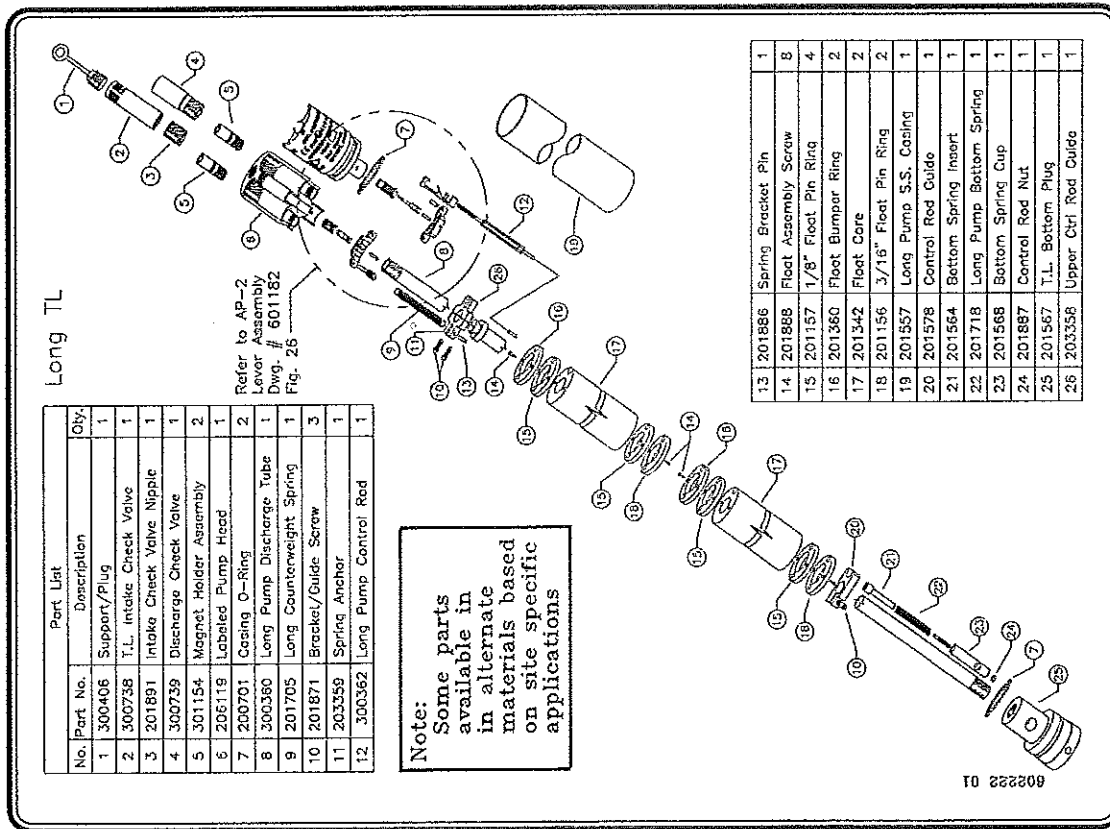
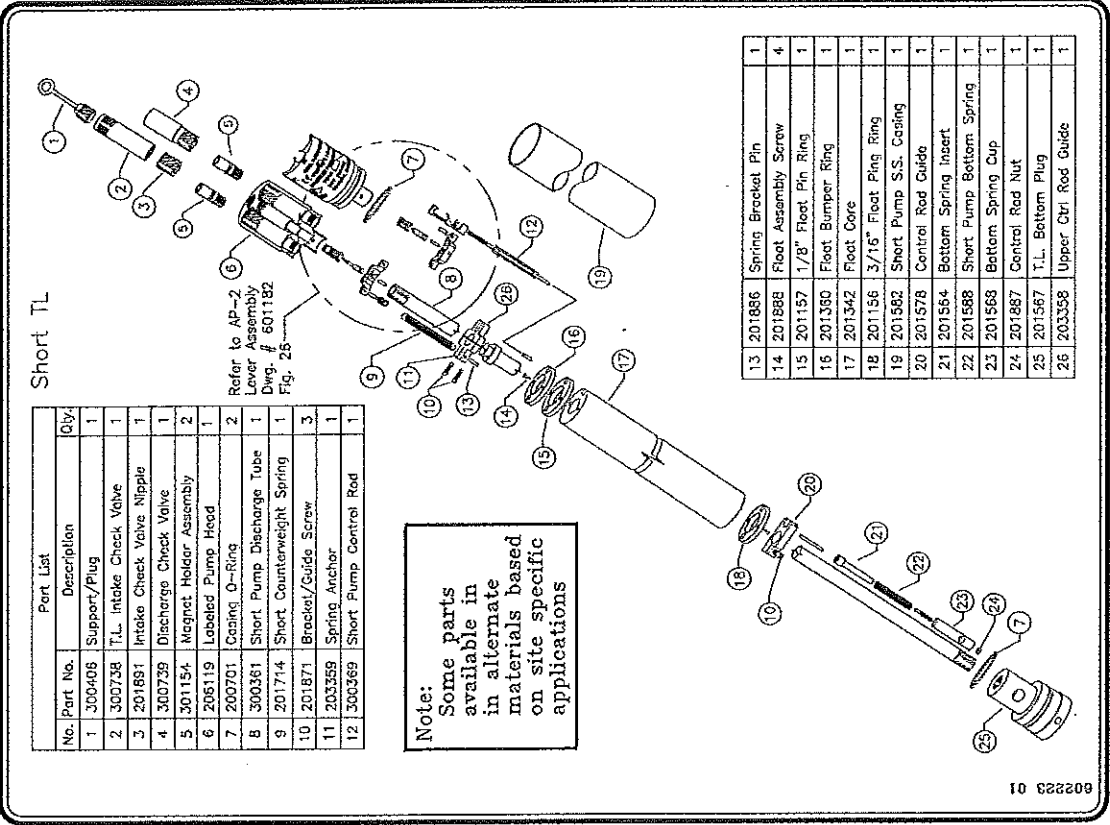
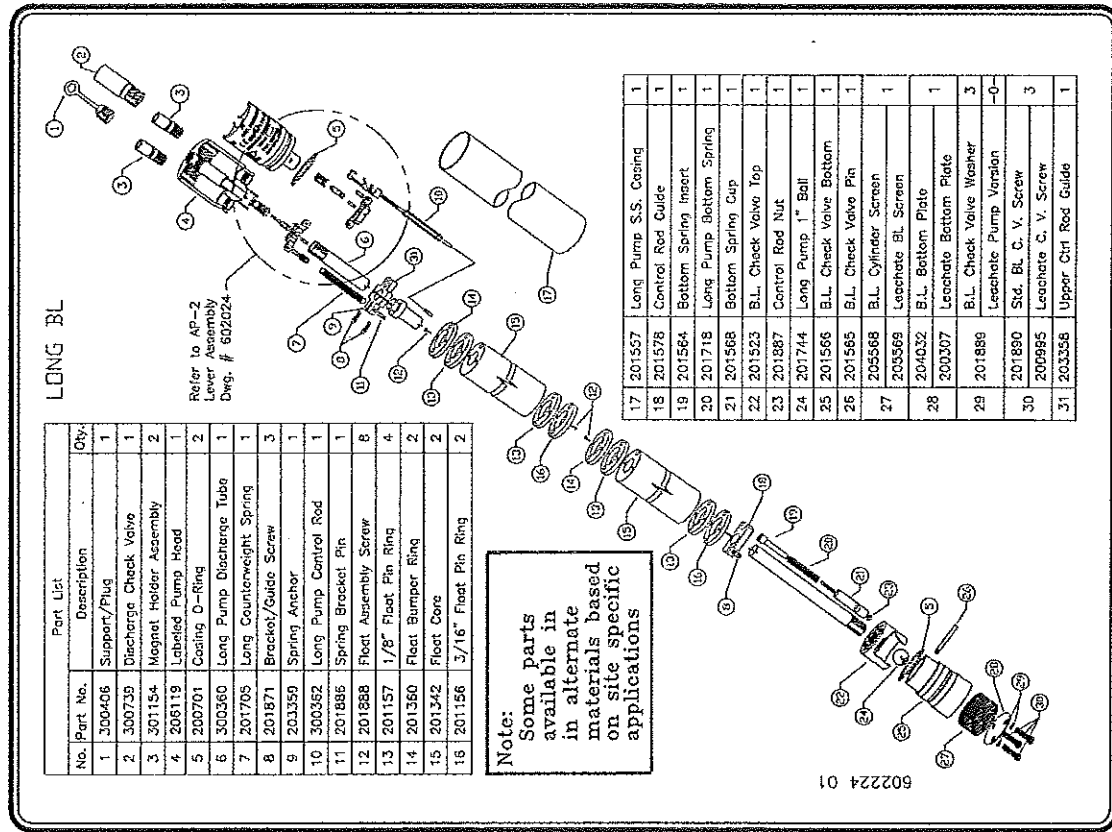
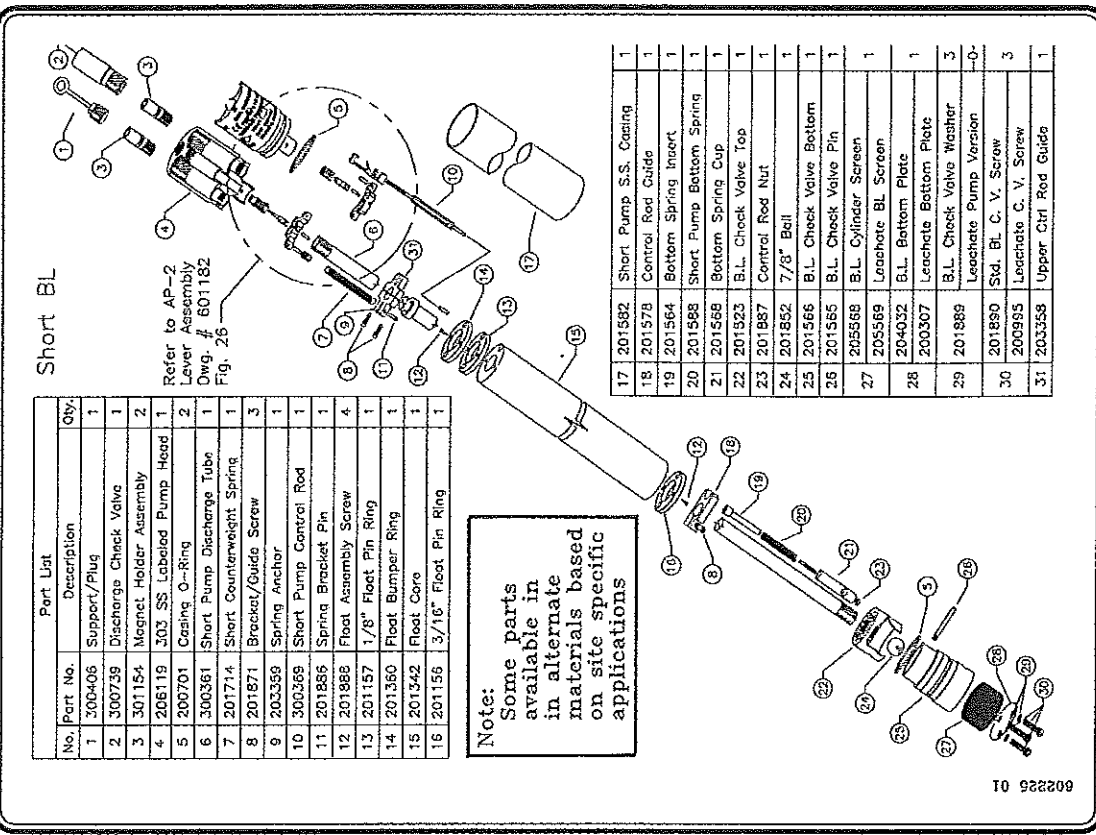

Figure 17 - Exploded view of a Long Top-Loading AutoPump AP-2
Figure 18 - Exploded View of a Short Top-Loading AutoPump AP-2
Figure 19 - Exploded View of a Long Bottom-Loading Autopump AP-2
Figure 20 - Exploded View of a Short Bottom-Loading Autopump AP-2
The inner workings of the pump should now be exposed for inspection and cleaning. (See Figure 17, Figure 18, Figure 19, Figure 20, and Figure 21)
- Remove the control rod guide. (See Figures 17 through 20)
- Remove the small SS nut from the bottom spring cup (See Figures 17 through 20) The nut and cup removal will allow you to remove the spring and float from the SS discharge pipe.
- STEP 6 -** The Control rod (See Figures 17 through 20) is the next component to be cleaned. Only use a Scotch Brite pad for removing any iron or debris on this metal alloy control rod.